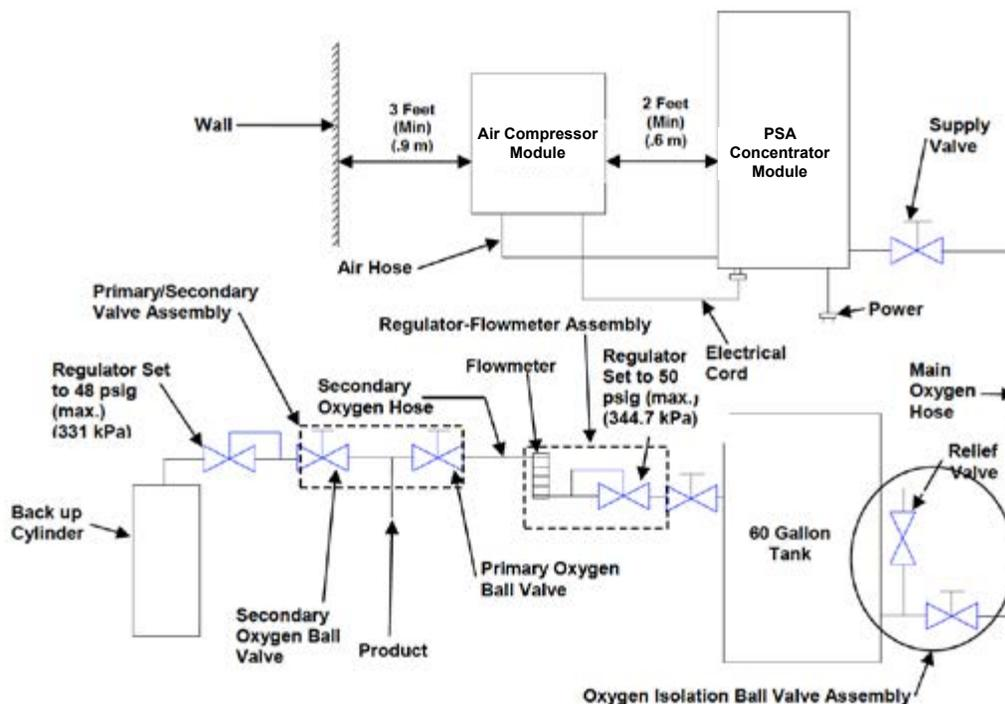

Figure 5.1: General Arrangement of the Centrox Concentrator
The primary oxygen ball valve controls the flow of oxygen from the oxygen concentrator to your oxygen distribution system. See Figure 5.1.
The secondary oxygen ball valve controls the flow of a backup source of oxygen to your oxygen distribution system. This ball valve should always be closed unless a backup source is connected to it. See Figure 5.1.
This assembly consists of a pressure regulator and a flowmeter. The pressure regulator attaches to the outlet port of the oxygen receiver to regulate the pressure of the oxygen. The flowmeter is used to regulate the flow of the oxygen at the outlet of the oxygen receiver. Refer to Figure 5.1 for the installation location of this assembly.
Secondary hose is provided to connect the outlet of the regulator-flowmeter assembly to the inlet of the primary oxygen ball valve. Refer to Figure 5.1.
This assembly is shipped loose and must be connected to the PSA concentrator module oxygen outlet. The supply valve assembly limits the amount of flow to the oxygen receiver during purge. Refer to Figure 5.1 and 6.1.
Refer to Figure 5.1 as you follow the installation instructions:
5. Mount the supply valve assembly (shipped loose) at the outlet of the PSA module. Refer to Figure 5.1 and 6.1.
8. Connect the inlet of the primary oxygen ball valve to the outlet of the regulator-flowmeter assembly (See Figure 5.1) with the secondary oxygen hose.
12. Plug the electrical cord coming out of the compressor module to the PSA module as shown in the Figure 5.1.
2. Insert the compressor module electrical plug to the electrical inlet at the bottom of the PSA module. Refer to Figure 5.1.
6. Ensure that oxygen isolation ball valve is open (See Figure 5.1).
8. Close the primary and the secondary oxygen ball valves (See Figure 5.1).
14. Fully open the regulator and flowmeter (See Figure 5.1). Oxygen should start coming out of the outlet once the regulator and flowmeter are open.
17. Fully close the primary oxygen ball valve (See Figure 5.1).
5. Close the oxygen isolation ball valve (See Figure 5.1).
2. Ensure that the oxygen isolation ball valve is open (See Figure 5.1).